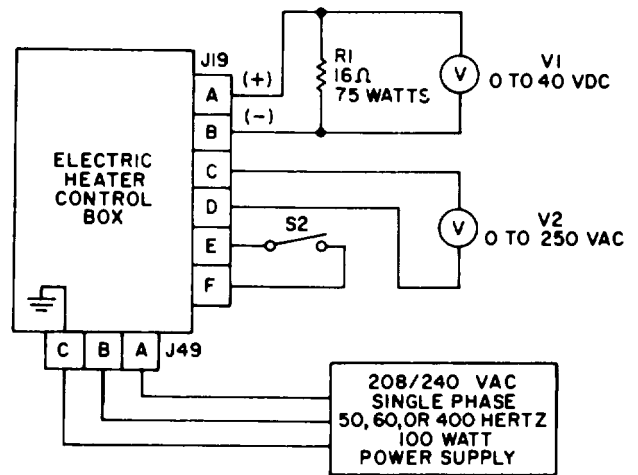

Figure 12-1. Electric winterization kit control box, test setup
a. Connect control box to test equipment as illustrated in figure 12-1.